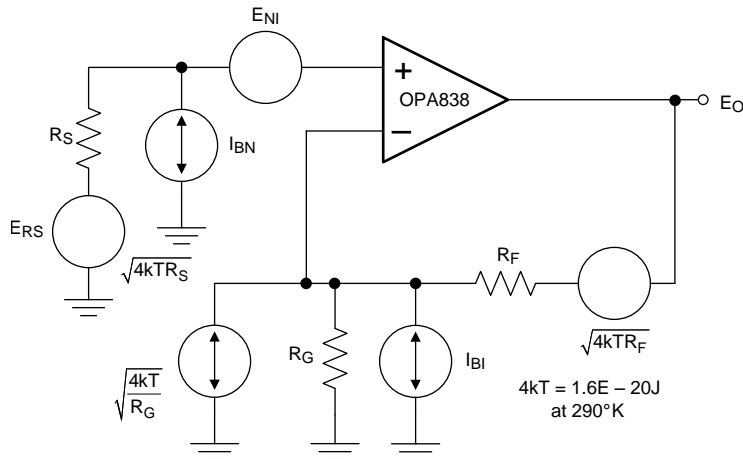
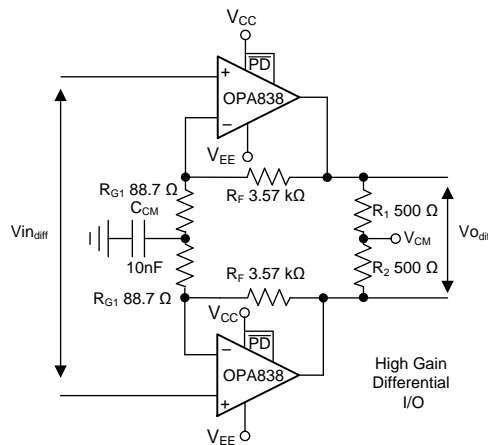
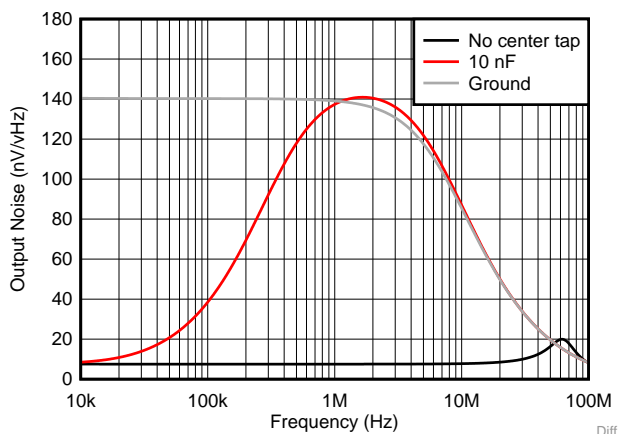

图 76. Op Amp Noise Analysis Model
图 77. High-Gain Differential I/O Stage
图 78. Common-Mode Output Noise for Differential I/O Design
The uncompensated voltage feedback of the OPA838 op amp offers among the lowest input voltage and current noise terms for any device with a supply current less than 1 mA. 图 76 shows the op amp noise analysis model that includes all noise terms. In this model, all the noise terms are shown as noise voltage or current density terms in $\text{nV}/\sqrt{\text{Hz}}$ or $\text{pA}/\sqrt{\text{Hz}}$.
The total output spot noise voltage is computed as the square root of the squared contributing terms to the output noise voltage. This computation is adding all the contributing noise powers at the output by superposition, then taking the square root to return to a spot noise voltage. 公式 3 shows the general form for this output noise voltage using the terms presented in 图 76.
A high-gain differential-to-differential I/O circuit can be used to drive a second-stage FDA or a differential-to-single-ended stage. This circuit is frequently used in applications where high input impedance is required (for example, if the source cannot be loaded). 图 76 illustrates an example design where the differential gain is 41 V/V. An added element between the two R_G resistors increases the noise gain for the common-mode feedback. It is important to provision for the added element because a decompensated VFA (like the OPA838) often oscillates without it in this circuit. With only the R_G elements in the differential I/O design, the common-mode feedback is unity-gain and often causes high-frequency, common-mode oscillations. To resolve this issue, split the R_G elements in half and add a low-impedance path such as a capacitor or a DC reference between the two R_G values.
As an example design, start with the circuit in 图 77.
- Assess the DC common-mode biasing on the noninverting inputs. The DC biasing must be in range and have a gain of 1 to the output. This is not illustrated in 图 76.
- If a DC reference is used as the mid- R_G bias, setting the reference equal to the noninverting input bias voltage sets the output common-mode to that voltage. Using a capacitor as illustrated in 图 76 accomplishes the same results.
- Set the total R_G value near the high gain values using 表 1. This 178-Ω total must be split for a center tap to increase the common-mode noise gain, as shown by the 88.7-Ω value in 图 77.
- Simulate the common-mode noise with different elements on the R_G center tap, as shown in 图 78. Decide which is most appropriate to the application.
The common-mode loop instability without the R_G center tap is not often apparent in the closed-loop differential simulations. It can often be detected in a common-mode output noise simulation as 图 78 shows. Grounding the inputs 图 77 and running a output noise simulation for the common-mode tap point in 图 76 shows a peaking in the noise at high frequency. This peaking indicates low-phase margin for the common-mode loop. 图 78 shows this peaking in the lowest noise curve, with two options for improving phase margin. The first option used in 图 77 is a capacitor to ground set to increase the common-mode noise gain only at higher frequencies. This can be seen by the peaking in the common-mode noise of 图 78. Another alternative is to provide a DC voltage reference on the R_G center tap. This raises the common-mode noise gain from DC on up in frequency. Neither of these latter two show any evidence of low phase margin peaking. They do increase the output common-mode noise significantly at lower frequencies. Typically, an increase in output common-mode noise is more acceptable than low-phase margin as the next stage (FDA, ADC, differential to single stage) rejects common-mode noise.